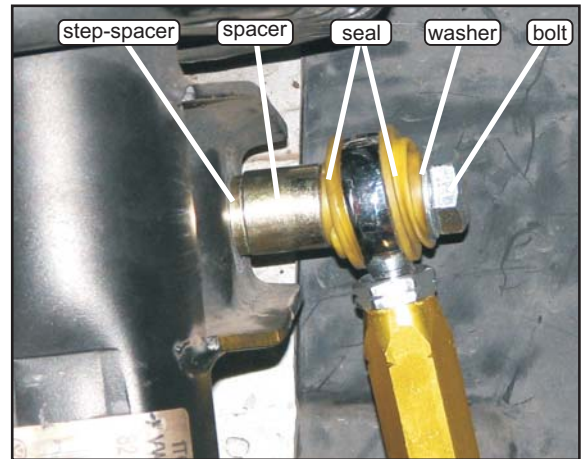

Fig 1.
3. Using new mounting hardware supplied, loosely fit link to car on one side only, as shown in Fig 1 and 3.